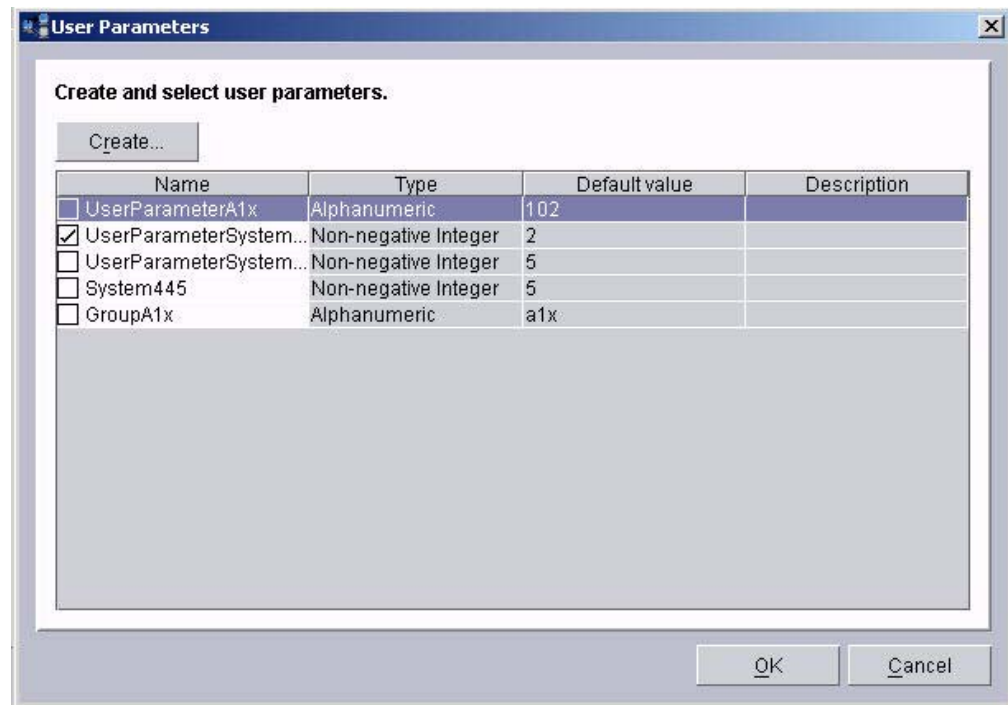

Figure 11. User Parameters window
1. In the “User parameters” pane, click **Select**. The User Parameters window opens (see Figure 11).